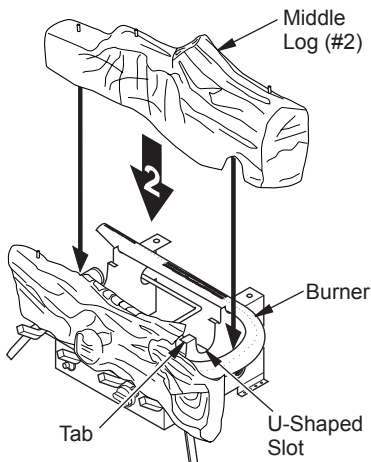

Figure 19 - Installing Middle Log #2
2. Place base of middle log (#2) in U-shaped slots of grate base. The large cutout on bottom right of middle log should fit over burner (see Figure 19, page 16). Make sure front of middle log is resting on tabs of grate base.